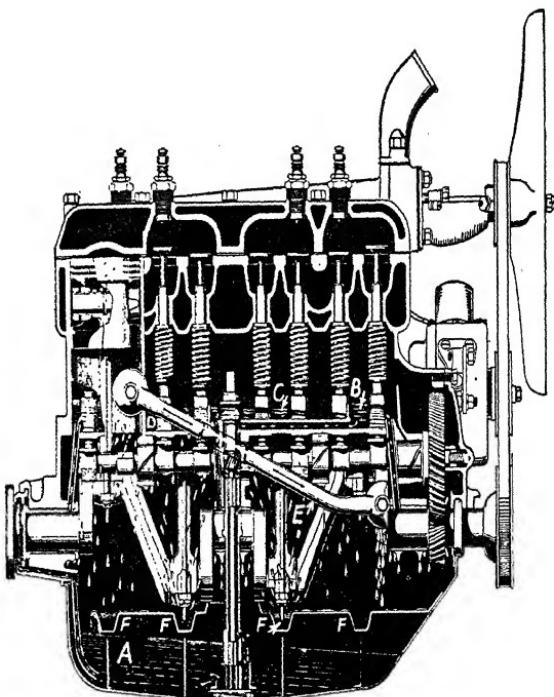

Fig. 16. Ford Model "A" Oiling System Is of Splash-and-Circulating Type
*Splash-and-Circulating Lubrication.* For many years the splash-and-circulating lubrication was one of the most popular forms of automobile engine lubrication. No particular fault has ever been found with it except in cases of high-speed engines. Where extremely high speed is used, some engineers question its ability to perform properly. The principles of this system of lubrication are illustrated in Fig. 16.
Somewhat the same idea has been followed out in the Model "A" engine. It will be noted in Fig. 16 that oil from the oil sump *A* is lifted by the oil pump gears and forced upward along the central vertical tubes, from which point it flows forward through a small passageway to the oil level marked *B*.
A small cross rib at the rear of the point *B* serves as the forward oil level in the valve compartment. Oil overflowing this point then passes to the oil level *C*. After overflowing the rib at the rear of the oil level *C*, it fills in a new oil level at the point marked *D*. Reaching a certain level at this point, the surplus oil then flows through the oil tube exposed on the outside of the engine and on forward to the front of the engine, where it is turned back into the upper level of the oil pan. Oil flowing from this point fills the four troughs marked *F*. Oil splashed from the oil troughs serves to lubricate the connecting rods, the pistons, and cylinder walls. Oil flowing from the upper levels *B*, *C*, and *D* passes through drilled openings or tubes to the three main engine bearings, as will be noted from a study of Fig. 16. Oil also flows from these upper levels to the cam-shaft bearings and lubricates them. Surplus oil coming from the rear main bearings is caught by oil slingers and carried through an opening back into the oil sump. Excess oil from the timing gears and front crank-shaft bearings finds its way into the sump also. This system belongs to the splash-and-circulating type. It has no counterpart in any other engine inasmuch as no other engine makes use of the valve compartment as an oil reservoir from which the bearings are fed.